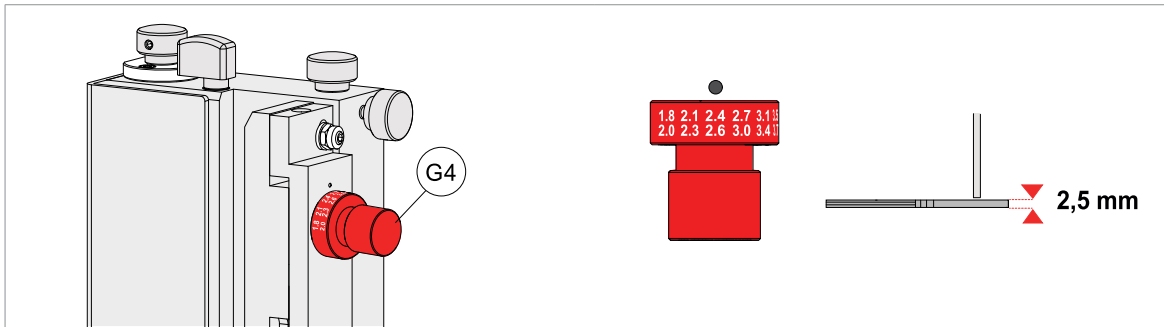

Fig. 113
The knob (G4) shows some indications of thickness to facilitate regulation (Fig. 113).
- 12) Use knob (G4) to adjust the thickness of the Z34A template on the loader (2.7mm / 3mm) (Fig. 113).